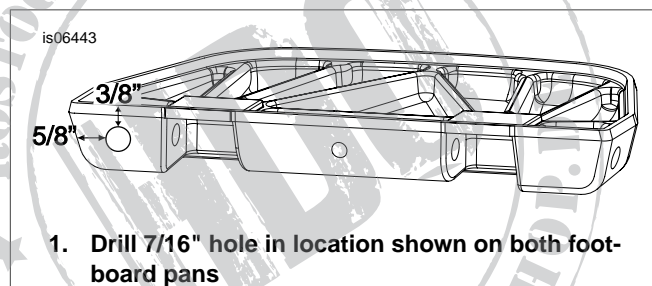
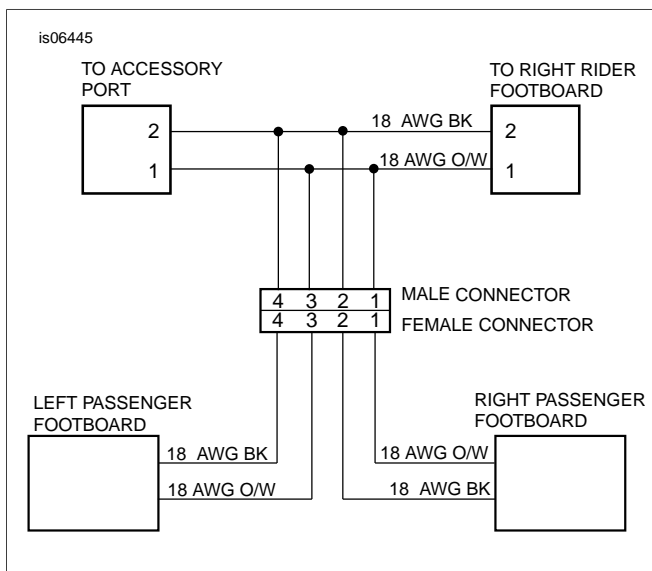
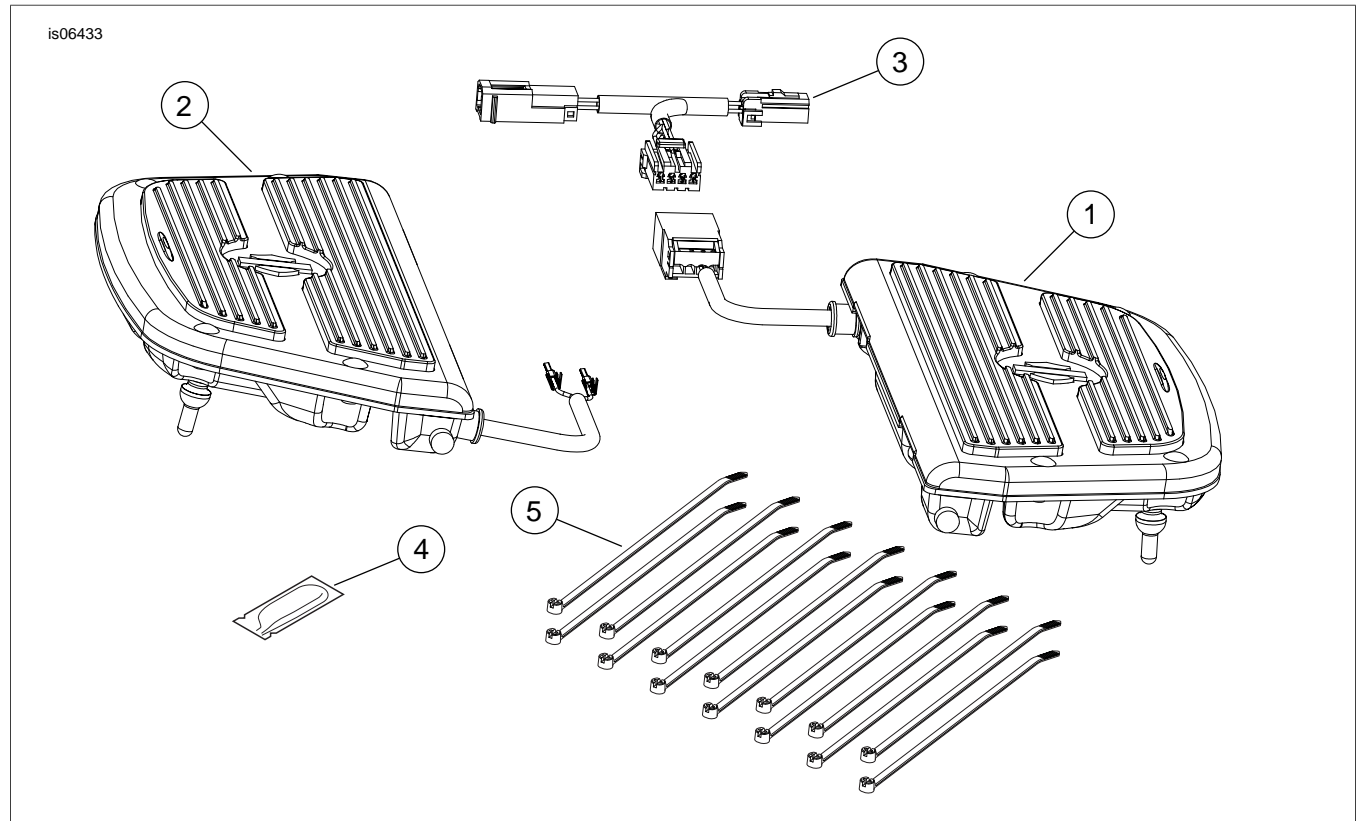

Figure 1. Drill Holes for Wire Harness in Footboard Pans
Figure 2. Passenger Footboard Leads Connected to "Y" Harness
Figure 3. Service Parts: Electra Glo Lighted Passenger Footboard Insert
See Figure 3 and Table 1.
1. See Figure 1. Drill a 7/16 inch hole into the sidewall of both footboard pans as shown in Figure 2. Remove sharp edges and burrs. When installed, the right footboard pan will have the hole in the front and the left footboard pan will have the hole at the rear of the pan.
- Allow sufficient wire length to allow the footboards to pivot freely through their entire range, then use cable straps (6) from the kit to tie the footboard insert harnesses to the back sides of the passenger footboard mounting brackets.
- See Figure 2, Figure 3 and Table 1 to make the wire connections. Apply the contents of the dielectric grease packet (4) to the footboard insert wiring harness and all harness connector terminals.
- Left passenger footboard (2): Install orange/white wire with pin to female connector (5) in the number 3 cavity. Install black wire with pin to number 4 cavity.